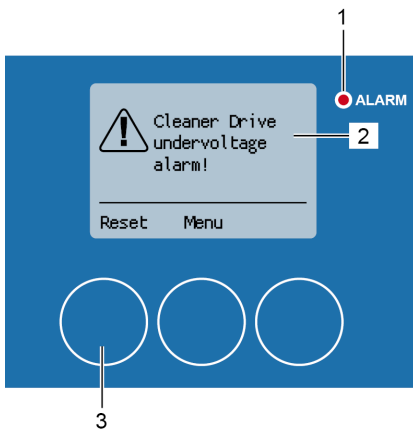

Fig. 196: Cleaner drive undervoltage alarm
The alarm message “Cleaner Drive undervoltage alarm!” (Fig. 196/2) is displayed during the cleaning process if there is a problem with the power supply of the rotor cleaner drive. The red alarm LED (Fig. 196/1) lights up.
2. Reset the alarm message with [Reset] (Fig. 196/3).